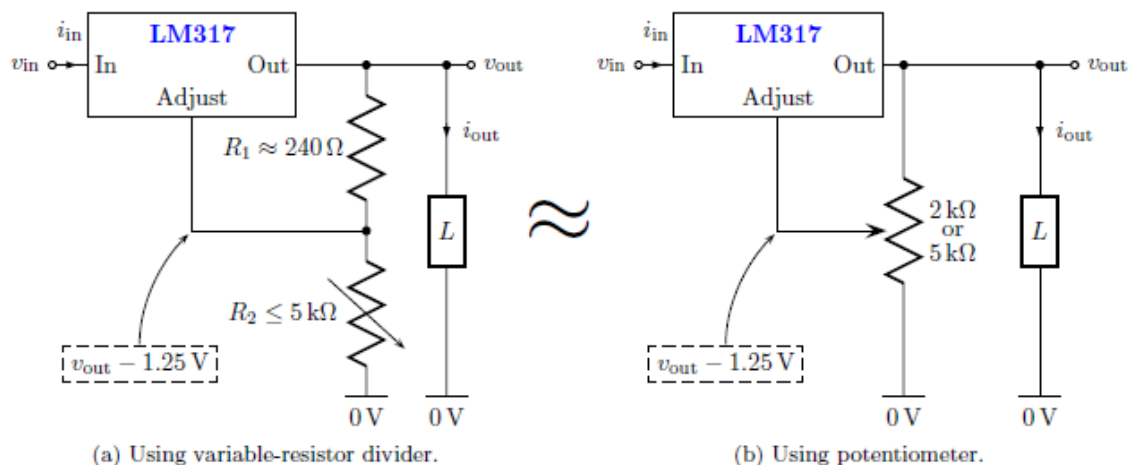

Figure 2: LM317 adjustable series voltage regulator with load L . Use $40V > (v_{in} - v_{out}) > 3V$.
The two circuits in Figure 2 are identical. The LM317 maintains 1.25V potential difference between its “Out” and “Adjust” pins, and the voltage divider acts as a lever propping v_{out} above the ground reference. The aim of this experiment is to understand the working and use cases of voltage regulators and potentiometers.
In Figure 2(a), the (temperature-independent) output is given by
1. Design (i.e., choose components for desired output) and build the regulator in Figure 2(a) or (b).
- (i) From Figure 2(a), set $R_1 \approx 240$ and calculate R_2 . Implement R_2 with a variable resistor made from adjacent legs of a 2 k or 5 k potentiometer.
- (ii) From Figure 2(b), adjust a 2 k or 5 k potentiometer for the right $R_1/(R_1 + R_2)$ ratio.
In Figure 2 replace LM317 with LM7805 and repeat the procedure.